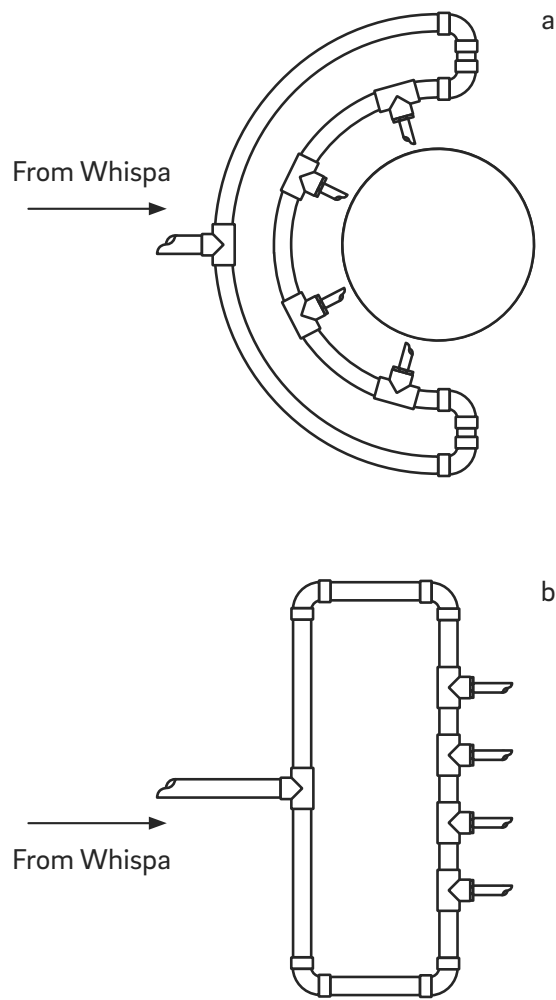

Figure 3
1. Create a manifold by plumbing a loop for the therapy air lines (Figure 3). When performing the loop on a circular body (Figure 3a), it may be necessary to heat bend the PVC pipe if the natural flex of the pipe is too extreme.